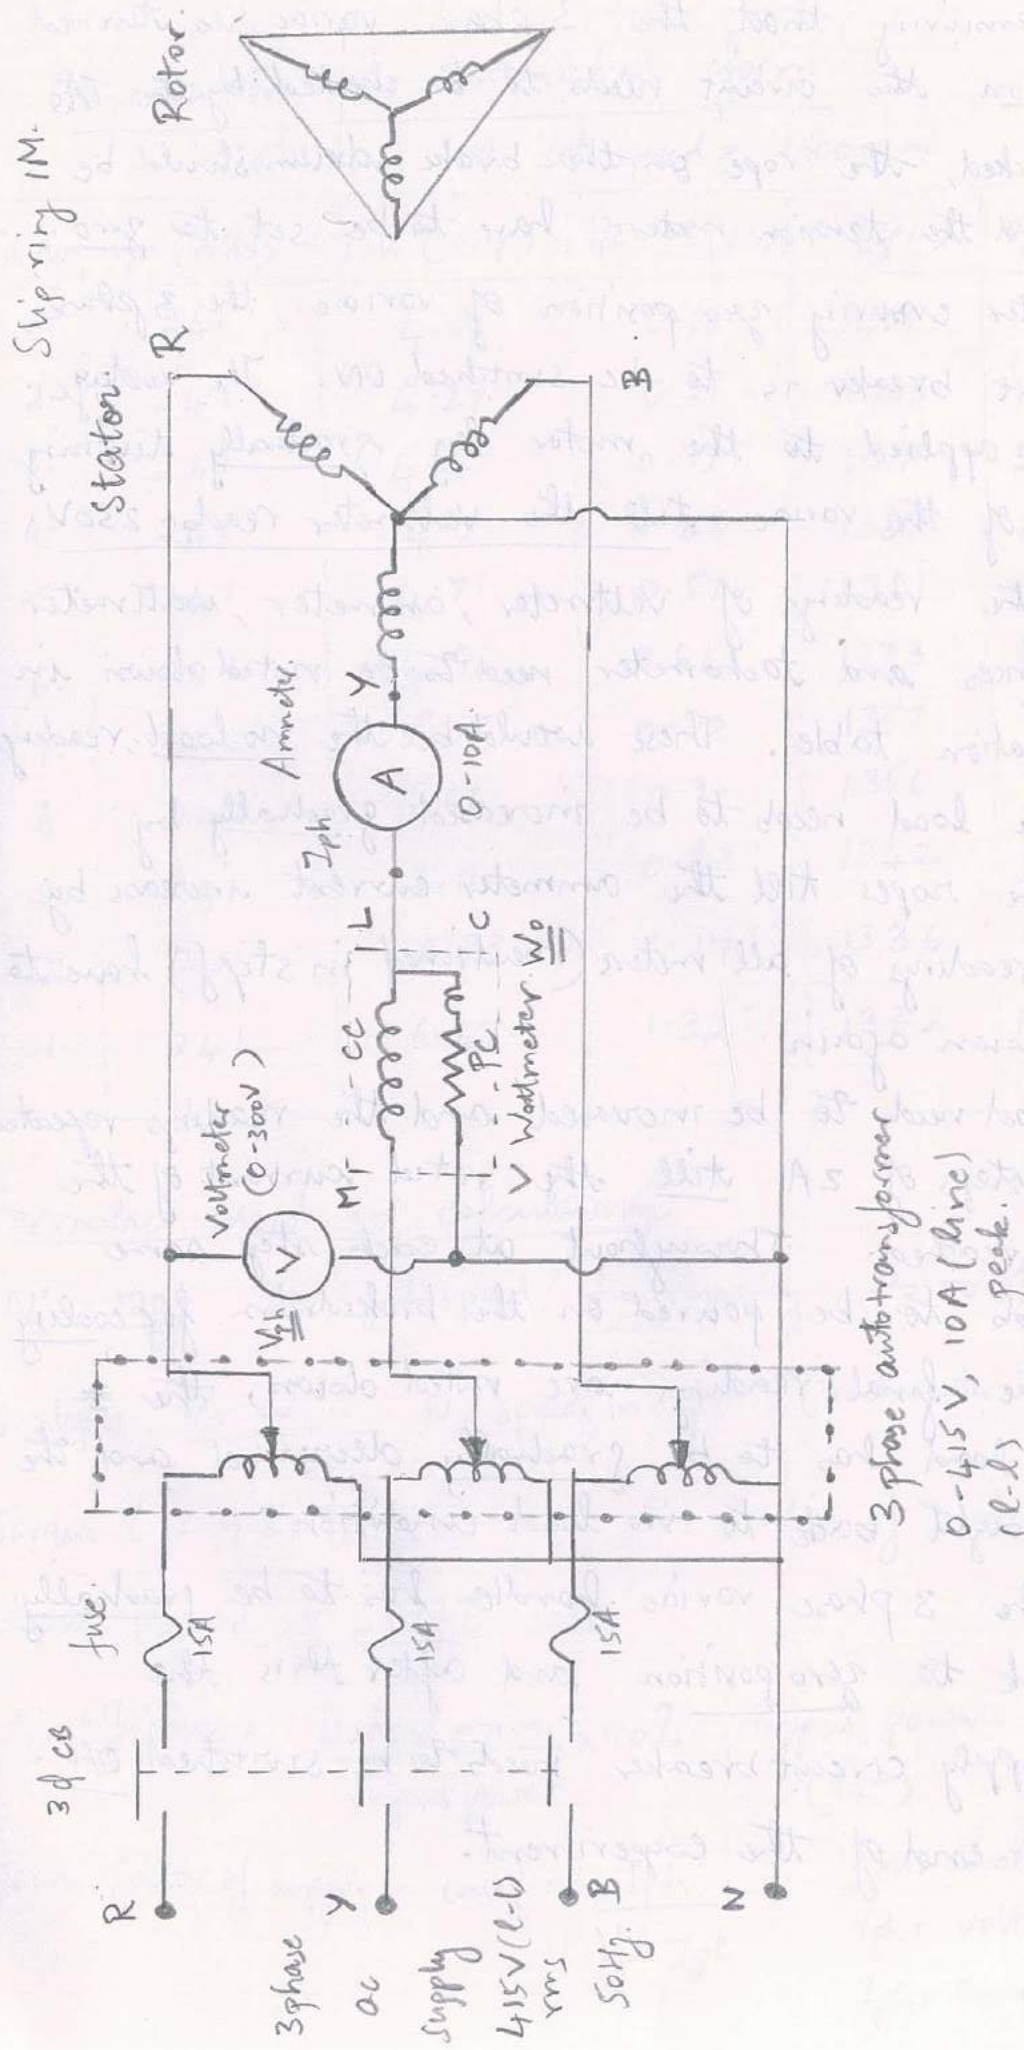

Fig 1: Circuit diagram for experiment no. 6
- b) The connections have to be made as shown in the fig 1.